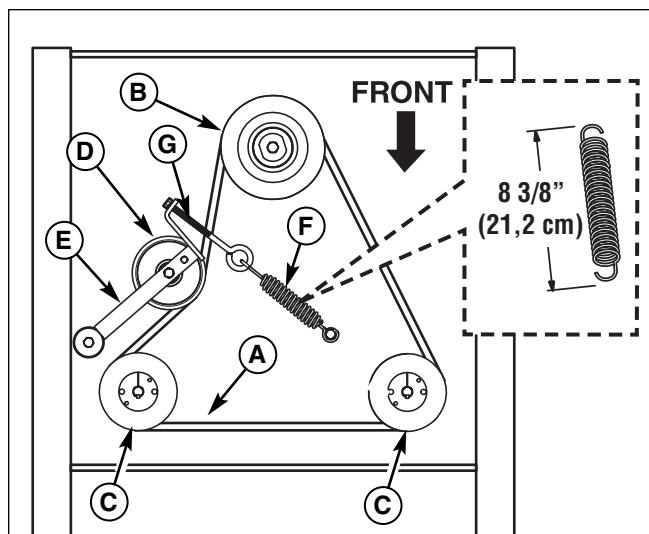

Figure 44. Hydraulic Pump Drive Belt Replacement
- Loosen the nut on the spring anchor eyebolt (G, Figure 44) to release the majority of the belt tension. Use caution and remove the nut to completely release the tension.
- Reinstall the spring anchor eyebolt (G) into the anchor tab and loosely fasten the nut. Adjust the anchor eyebolt until a measurement of 8-3/8" (21,2 cm) is achieved from the outside of the spring hooks. Tighten nut.